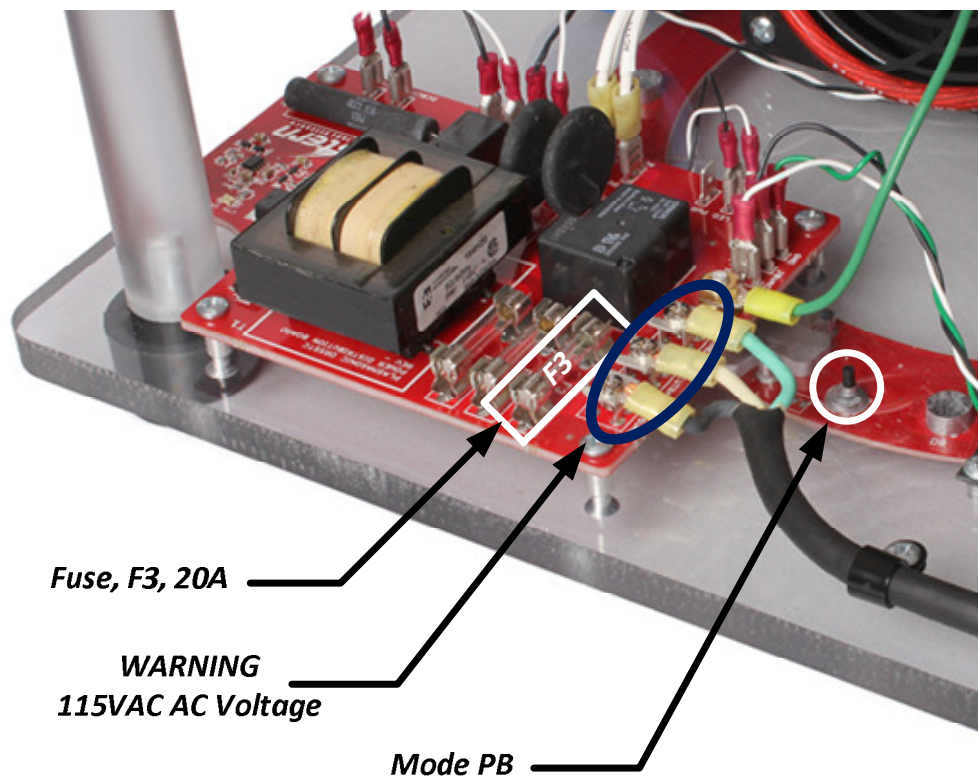

Figure 11 – RGB LED Illumination board adjust set-up
- 3. Once power has been removed and have waited at least five minutes to allow the energy storage capacitors to be discharged through the bleeder resistors, please remove the 20A power fuse which is installed in the F3 location on the Power Distribution board as shown below in Figure 11.